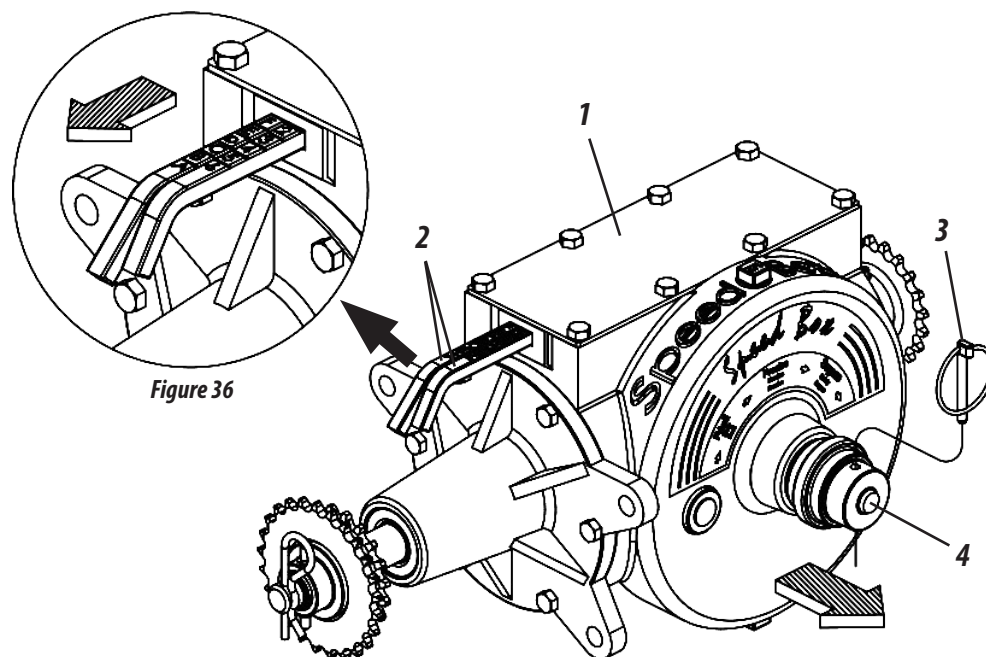

Figure 36
SPEED BOX (FIGURE 36)
- 1- Select the desired quantity in the tables and check the corresponding combination on the levers (2). **Example:** Position **F2** in the table, indicates that the lever with letters must be in the “**F**” position and the lever with numbers must be in the **2 position, as shown in figure 36.**
- 2- To move the levers, remove the lock (3) pull the handle (4) then adjust the levers according to the example above. When combining is complete, return the handle (4) and replace the lock (3).